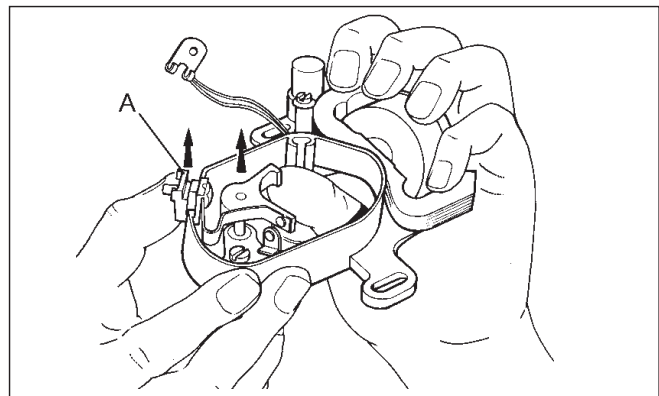

Fig. 8
- Remove breaker by lifting out and simultaneously easing insulator block '**A**' from box. (Fig 8).